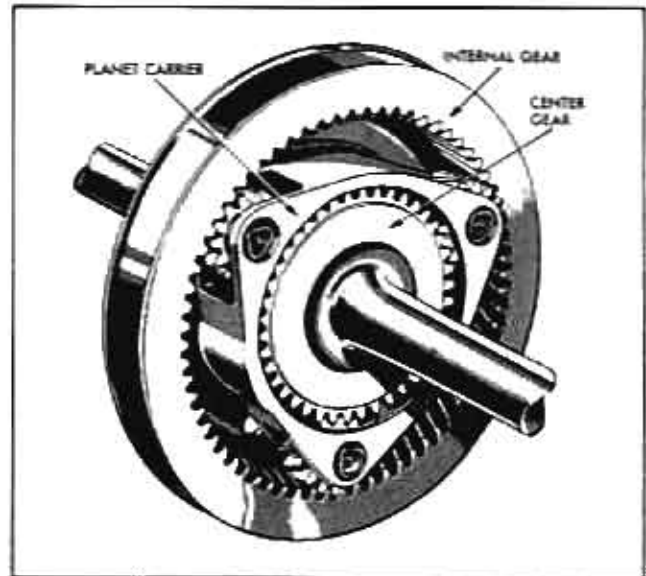

Fig. 4 Planetary Gears
a. One method of obtaining speed reduction (power multiplication) is to hold the internal gear stationary while power is applied to the center gear (Fig. 4). As the center gear turns, the planet pinion gears, which are in mesh with it, rotate on their respective pins. Since they are also in mesh with the stationary internal gear, they must "rotate around" inside the internal gear, carrying the planet carrier with them in the same direction of rotation as the center gear. The planet carrier then rotates at a speed less than that of the center gear, and the planetary gear train functions as a power-increasing, speed-reducing unit.